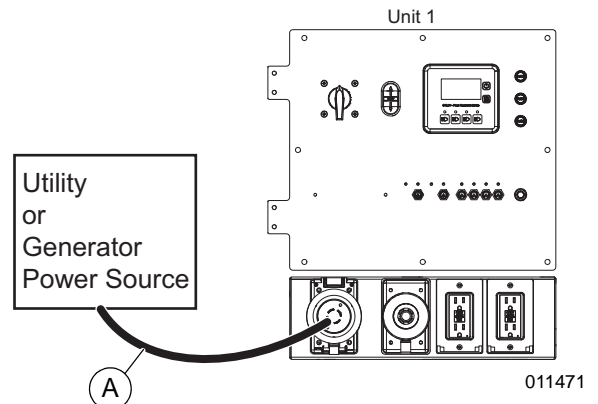

Figure 3-2. Connecting Utility or Generator to a Unit
See **Figure 3-2**. Supply power from a public utility, or from an appropriate generator, to a unit by connecting a cable (A) as illustrated.